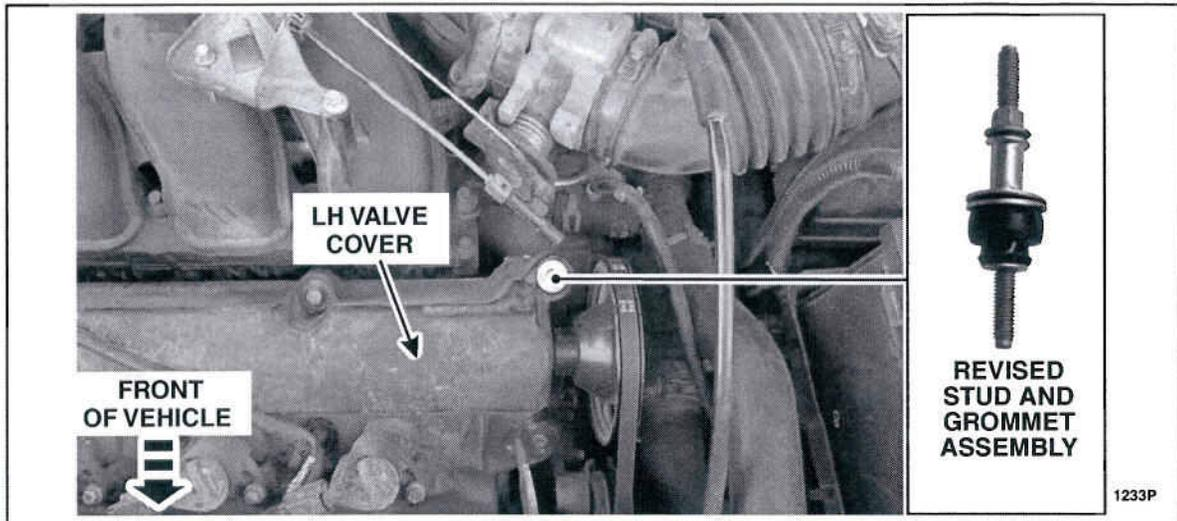

FIGURE 3
3. Remove the original rear stud and grommet assembly from the LH valve cover and install the *new* stud and grommet assembly. See Figure 3.